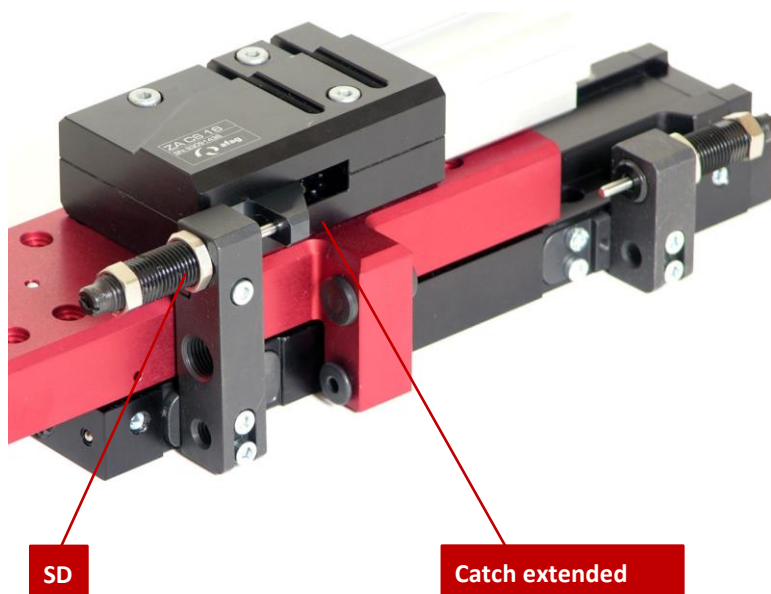

Fig. 23 Fine adjustment stop screw
8. Slightly loosen the clamping screw or nut (Fig. 23).
10. Tighten the clamping screw or nut (Fig. 23) again.